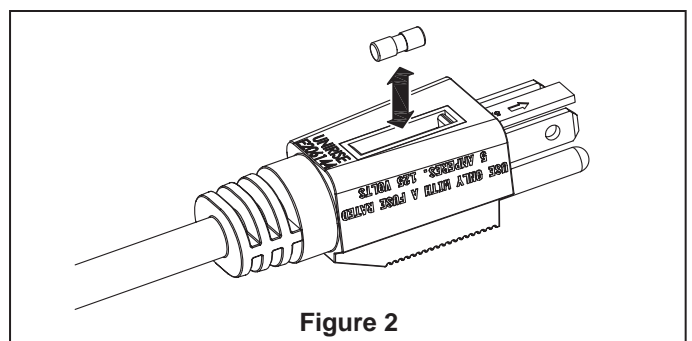

Figure 2
3. Remove fuse carefully (Fig. 2).